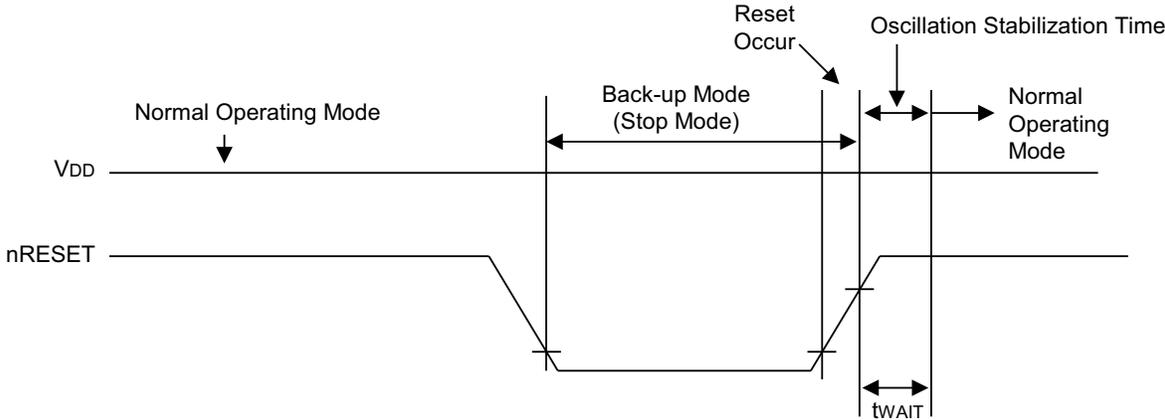

Figure 96. Input Timing for Reset (nRESET Pin)
► **Note:** In Figure 96, $T_{WAIT} = 4096 \times 16 \times 1/f_{OSC}$.